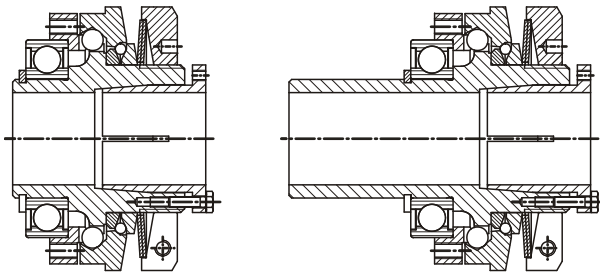

Fig. 3
**No appreciable axial forces (see Table 4) should be transferred from the output element onto the clutch pressure flange (2).**
The EAS®-Compact® with a long protruding hub (Type 490\_ \_ 4.1 / Fig. 3) is recommended for extremely wide output elements, or for elements with small diameters. On very small diameters, the output element is screwed together with the clutch pressure flange (2) via a customer-side intermediate flange.